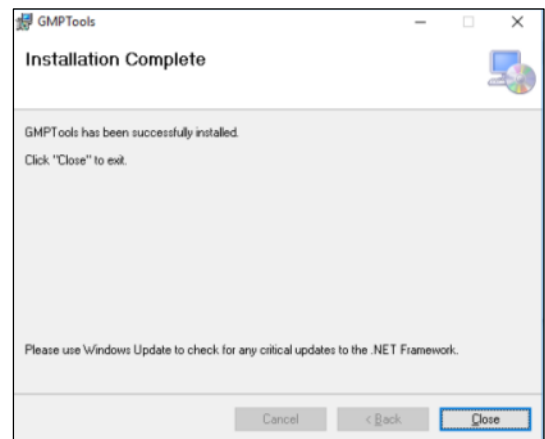

Fig. 2.6
- Click on **Next** in all the windows until the **Close** option is displayed (Fig. 2.6).